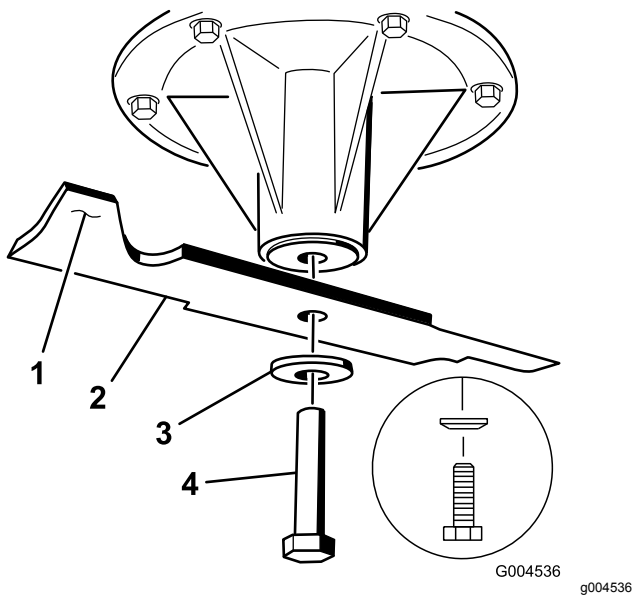

Figure 82
1. Install the blade onto the spindle shaft (Figure 82).
2. Install the spring disk and blade bolt (Figure 82).